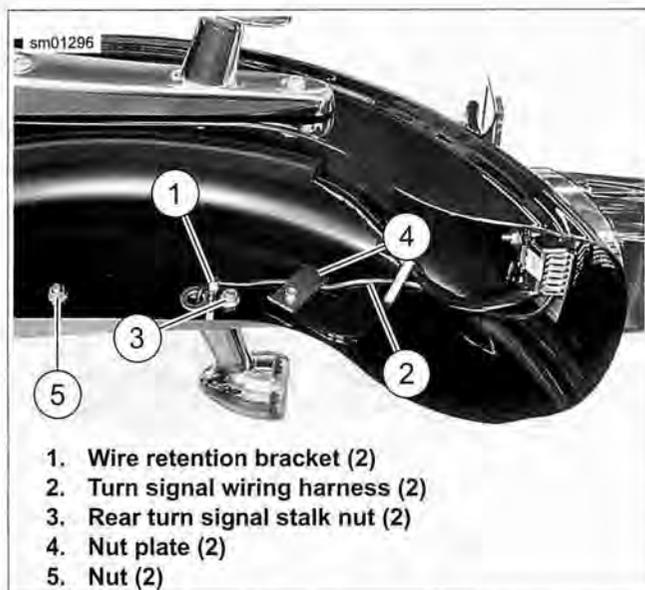

Figure 6-80. Turn Signal Wire Routing: XL 883R/L and XL 1200L
6. See Figure 6-80. Disengage turn signal wiring harnesses from wire retention brackets (1).